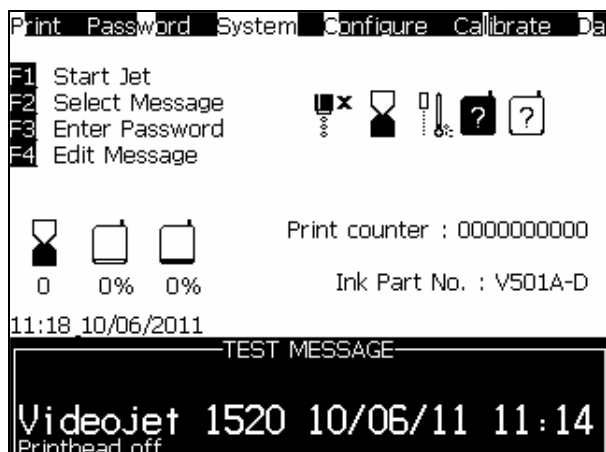

Figure 1-1. Menu Screen
The user interface (UI) elements are shown in italics. For example, *Messages* (see Figure 1-1).